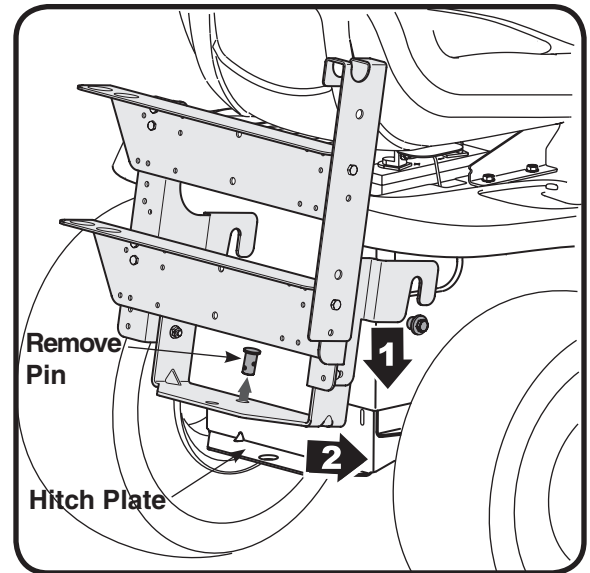

Figure 5
2. Remove the hairpin clip and clevis pin from the rear of the mounting bracket assembly. See Figure 5.
3. Position the hooked ends of the bracket assembly over the shoulder bolts (1). Swing in the bottom of the bracket assembly down and in (2) over the hitch plate and aligning with the hole on the hitch plate. See Figure 5.